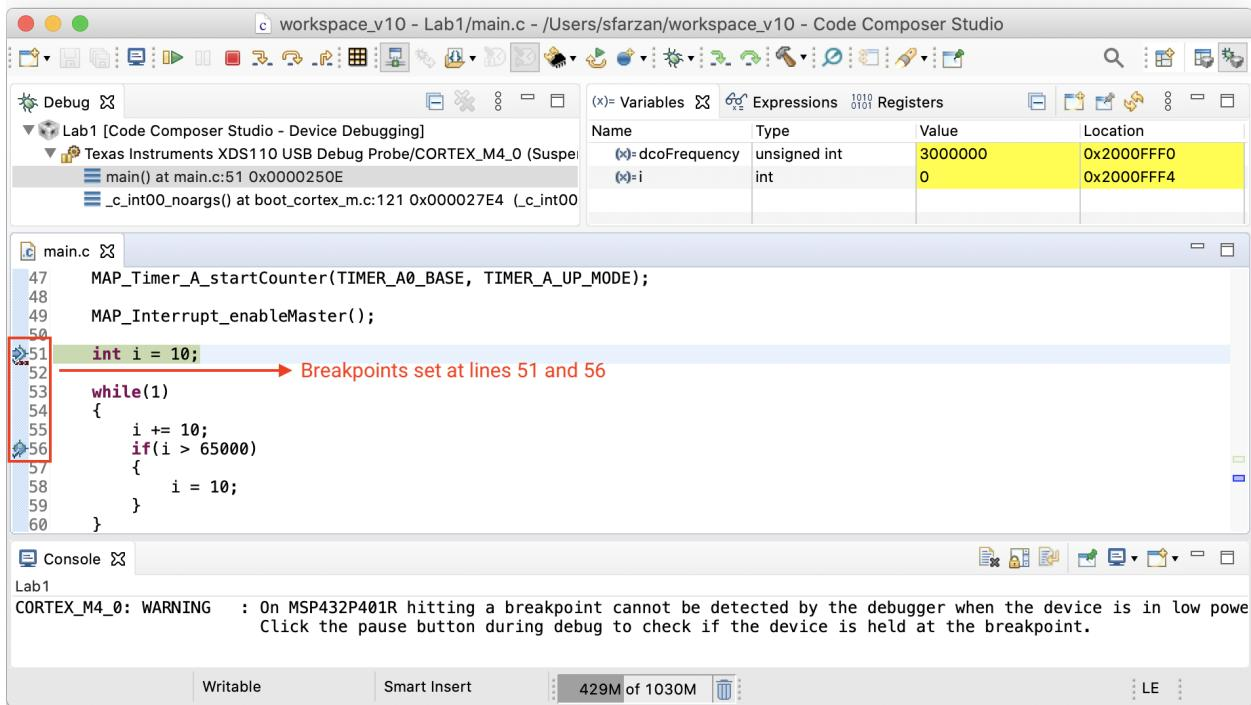

Figure 14: Setting breakpoints in debug mode.
- Set breakpoints at lines 51 and 56 of the code. To set a breakpoint, simply “double-click” on the left side (blue area) of the line number in the source code view (Figure 14). A blue circle icon will indicate the breakpoint status and placement. You can also right-click on a specific line of the code and select “Breakpoint” from the opened menu.
- Now press the Debug button. Once the code is paused in the main function, press F8 (or the Resume button) to progress to line 51. The program should pause execution at line 51, as shown in Figure 14.